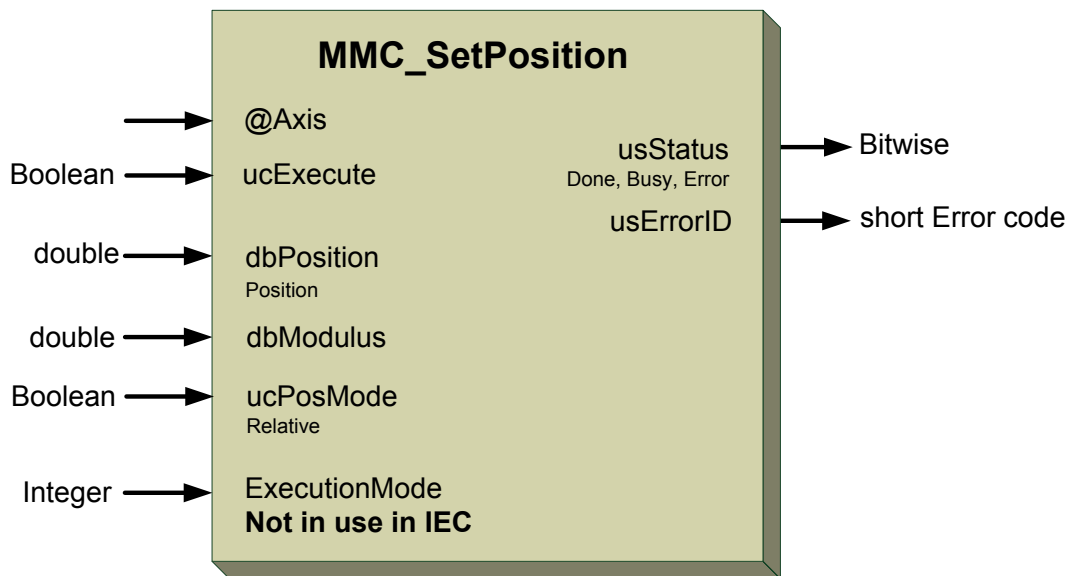

Figure 5-74: MMC\_SetPosition function block
**Figure 5-74** describes the function block for MMC\_SetPosition as applied within the IEC 61131 programming.